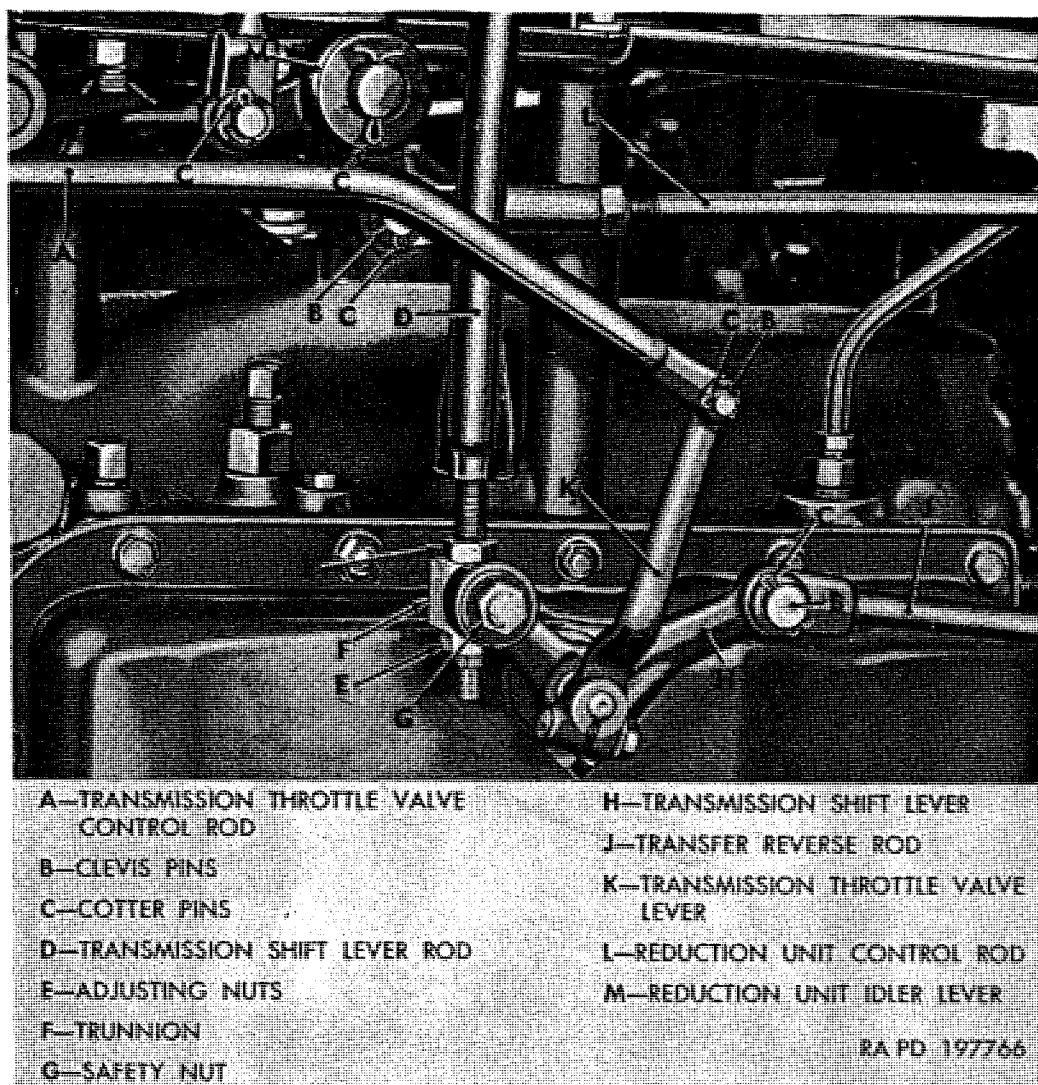

Figure 199. Transmission control linkage at side cover.
Note. The key letters noted in parentheses are in figure 199, except where otherwise indicated.
- (1) *Disconnect transmission control linkage and remove shift control tower.*
- (b) Disconnect transfer reverse rod from transmission shift lever by removing cotter pin and clevis pin (B and C, fig. 199).